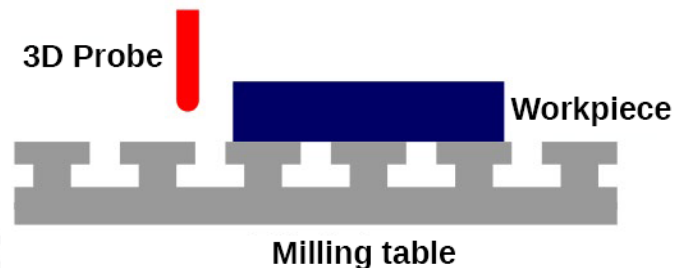

Fig. 23: Probe tip below upper workpiece limit
- The tip of the 3D probe must be below the workpiece surface (see Fig. 23).